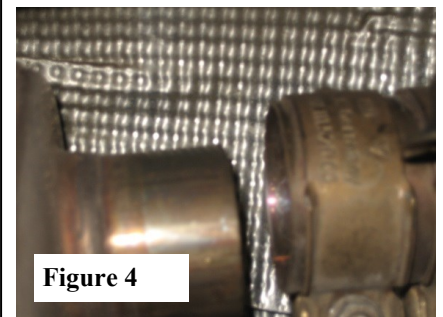

Figure 4
4. Carefully slide the band clamp to the inside of the car. (See Fig. 4)